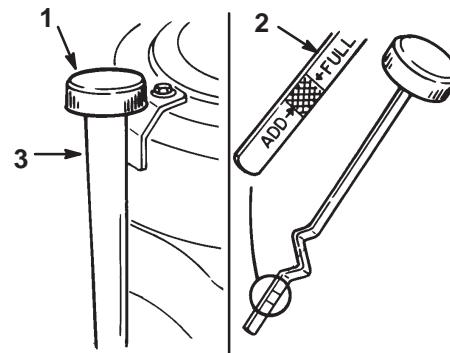

Figure 20
3. Clean around the oil dipstick (Fig. 20) so dirt cannot fall into the filler hole and damage the engine.
4. Unscrew the oil dipstick and wipe the metal end clean (Fig. 20).
5. Slide the oil dipstick fully into the filler tube, do not thread onto tube (Fig. 20). Pull the dipstick out and look at the metal end. If oil level is low, slowly pour only enough oil into the filler tube to raise the level to the "FULL" mark.
7. Slowly pour approximately 80% of the specified amount of oil into the filler tube (Fig. 20). Now check the oil level; refer to Checking Oil Level, page 25. Slowly add additional oil to bring to "FULL" mark on dipstick.